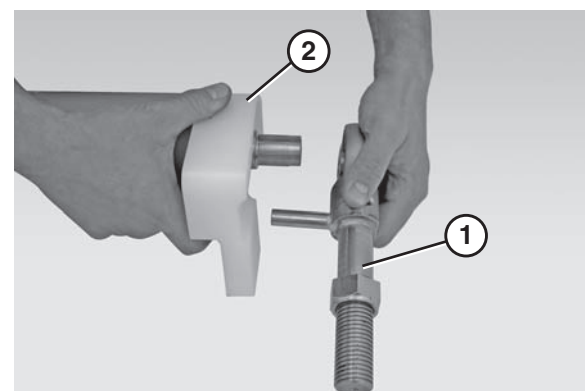

Figure 68
- Remove the bearing shafts (**Figure 68, item 1**) and both pinch guards (**Figure 68, item 2**).